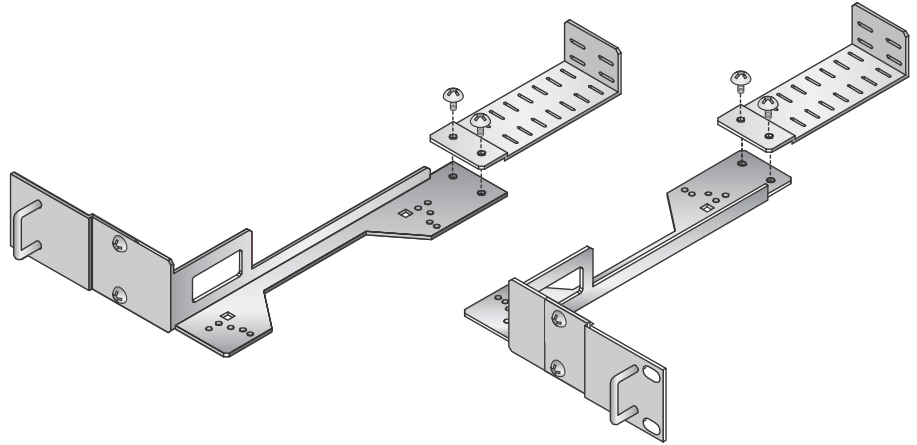

Figure 23. Attaching cable tray brackets for an AT-x210-9GT
9. Next attach the cable tray brackets for AT-x210-9GT switches, as shown below in Figure 23.